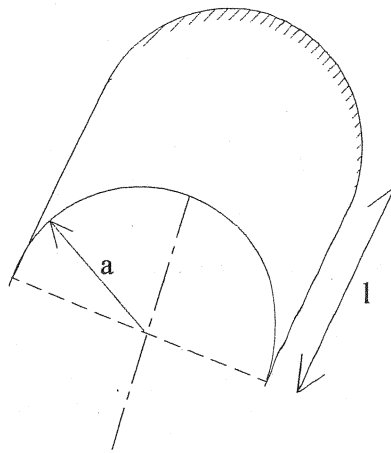

Figure Q5
- c) A semi-circular cylindrical shell made of thin aluminum sheets is proposed to be used as a cantilever roof of a dining hall as shown in Figure Q5. The length and the radius of the roof are l and a , respectively. The shell is subjected to its self-weight of "w" per unit surface area. From the membrane theory obtained in Part (b), determine membrane stress resultant in the roof shell structure. Clearly state any assumption you may make.